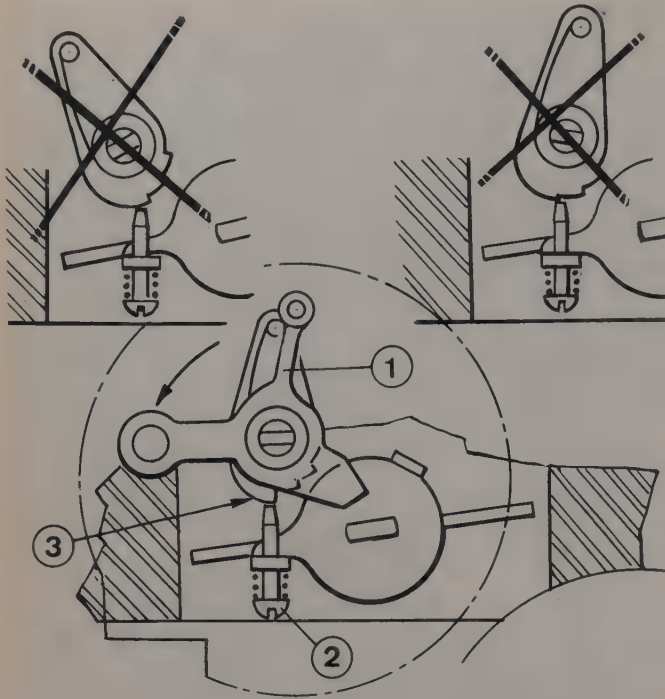

Fig. 3.15 Automatic choke adjustment on the Zenith 35-40 INAT carburettor (Sec 11)
- 9 Open the throttle lever, close the choke valve, then release the throttle lever. Refer to Fig. 3.15 and check that the stop screw is positioned as shown. If not, bend the intermediate lever.